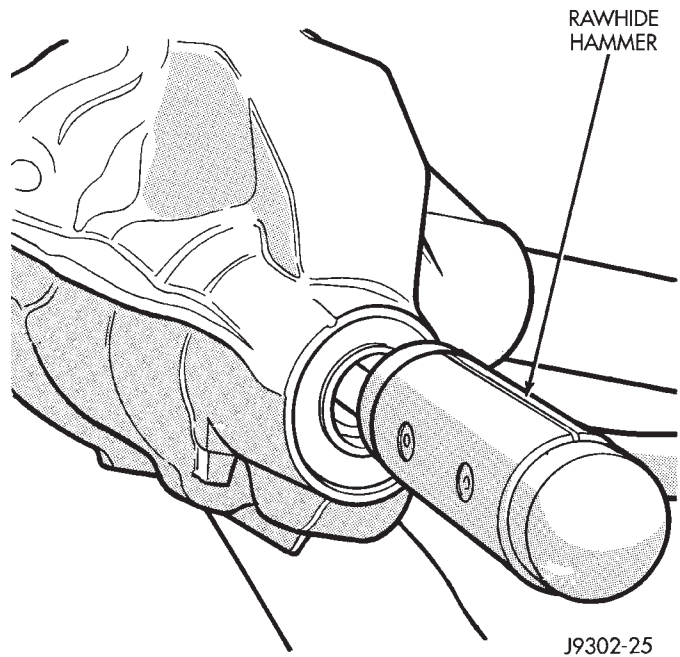

Fig. 24 Remove Pinion Gear
- (3) Disconnect propeller shaft from pinion yoke. Using suitable wire, tie propeller shaft to underbody.
- (4) Using Holder 6958 to hold yoke and a short length of 1 in. pipe, remove the pinion yoke nut and washer.
- (5) Using Remover C-452 and Wrench C-3281, remove the pinion yoke and pinion seal excluder from pinion shaft.
- (6) Remove the pinion gear from housing (Fig. 24). Catch the pinion with your hand to prevent it from falling and being damaged.